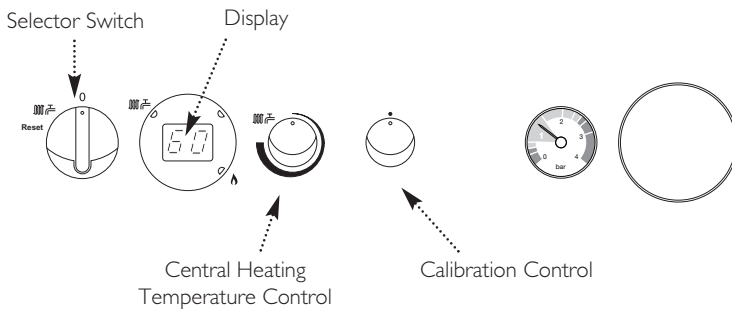

Fig. 35
6. With the boiler operating in the maximum rate condition check that the operational (working) gas pressure at the inlet gas pressure test point (Fig. 35) is in accordance with B.S. 6798 & B.S. 6891.